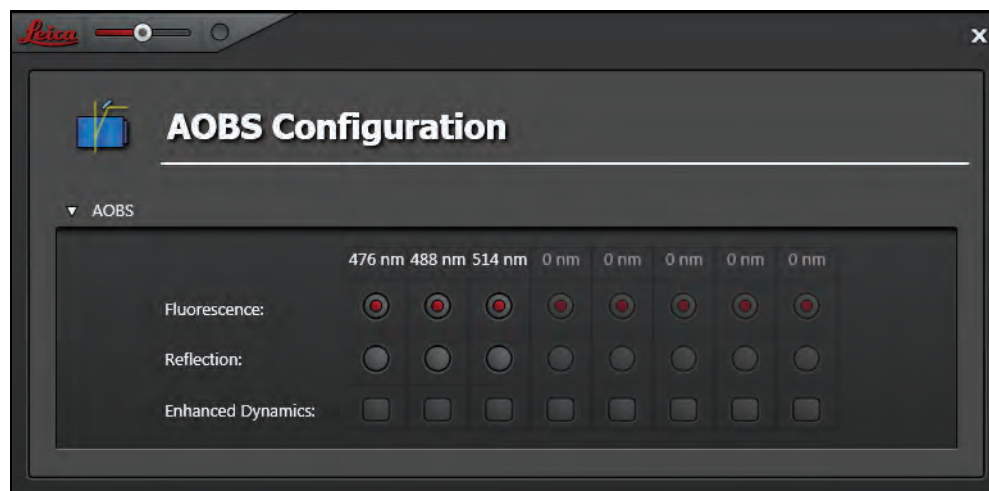

Figure 165: Dialog for AOBS configuration
1. Switch the acousto-optical beam splitter (AOBS) to fluorescence (**Figure 165**).